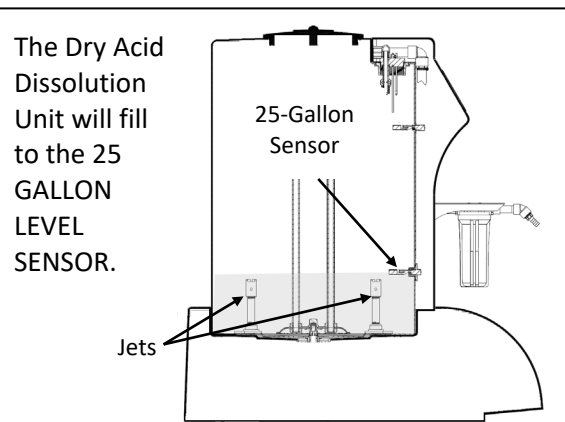

Figure 14
- Once the 25-Gallon Sensor is reached, the control panel will automatically step to the first RECIRCULATE Operation (figure 14). With your safety glasses on, lift the Access lid and check for correct spray ball operation. See figure 4, page 12, for the illustration of correct or incorrect spray ball operation.